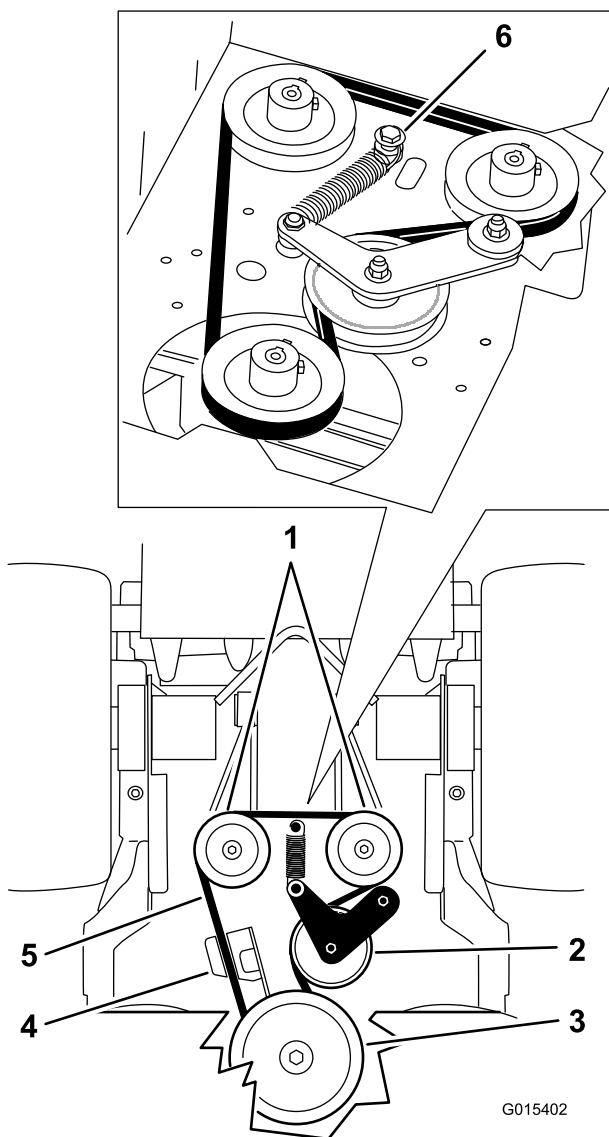

Figure 70
5. Remove the shoulder bolt, nut and washer from the engine deck and connected to the spring (Figure 70).
6. Remove the pump drive belt (Figure 70).
8. Install the spring onto the shoulder bolt and washer and connect it to the engine deck with the nut (Figure 70).